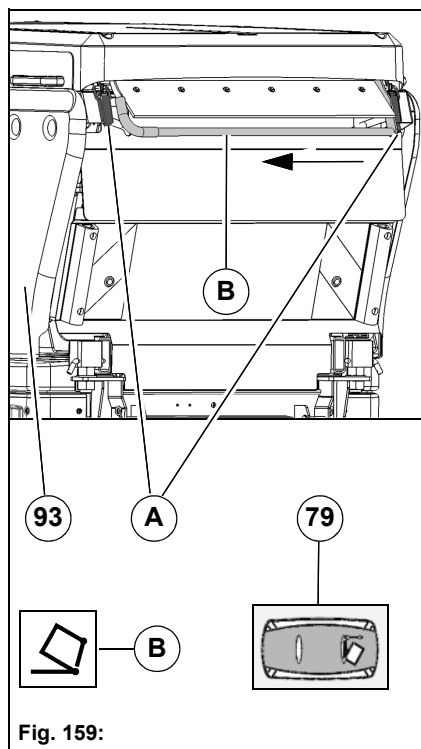

Fig. 159:
3. Before emptying the dirt hopper **Fig. 159-93** open the lock **Fig. 159-A** of the lid.
If the red warning symbol **Fig. 159-B** appears, the dirt hopper must be emptied immediately.